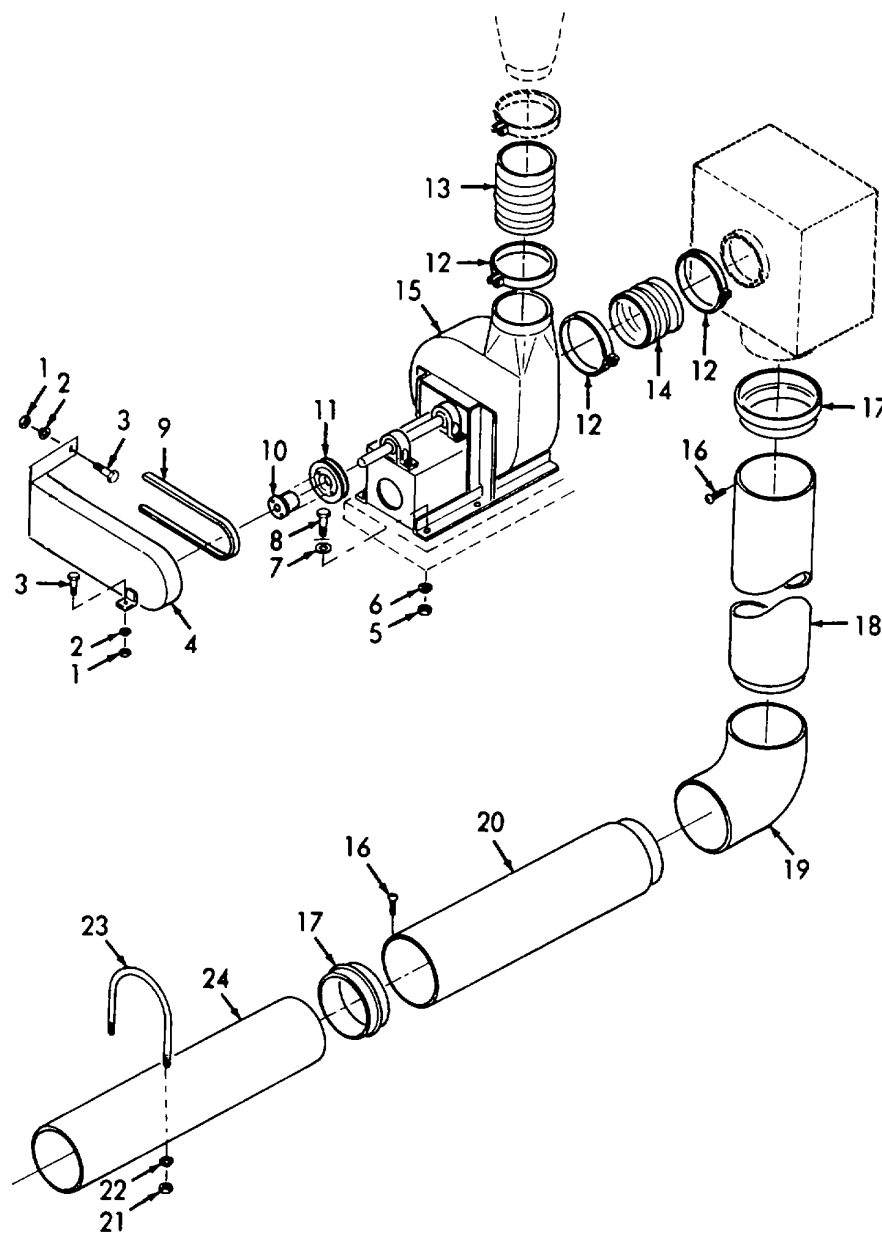

Figure 3-4. Exhaust Fan, Removal/Installation.
a. Removal. (Refer to figure 3-4).
- (1) Remove four nuts (1), four lockwashers (2), and four bolts (3) securing belt guard (4).
- (2) Remove four nuts (5), four lockwashers (6), four flat washers (7), and four bolts (8) to relieve drive belt tension. Then, remove drive belt (9).
- (3) Remove bushing (10) and sheave (11) from the fan (15).
- (4) Remove four hose clamps (12) and disconnect hoses (13 and 14).
- (5) Remove two screws (16) securing the couplings (17). Then, disconnect and remove duct (18), elbow (19), and duct (20).
- (6) Remove nut (21), lockwasher (22), U-bolt (23), and duct (24).